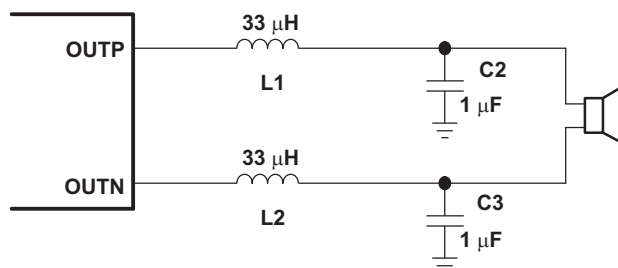
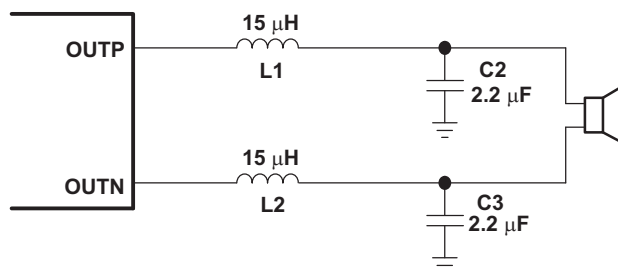

Figure 33. Typical LC Output Filter, Cutoff Frequency of 27 kHz, Speaker Impedance = 8 Ω
Figure 34. Typical LC Output Filter, Cutoff Frequency of 27 kHz, Speaker Impedance = 4 Ω
- Output filter—The ferrite EMI filter (Figure 35) must be placed as close to the output terminals as possible for the best EMI performance. The LC filter (Figure 33 and Figure 34) must be placed close to the outputs. The capacitors used in both the ferrite and LC filters should be grounded to power ground.